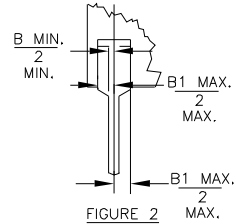

FIGURE 2
8. CORNER LEADS (1, 4, 5, AND 8) MAY BE CONFIGURED AS SHOWN IN FIGURE 2.